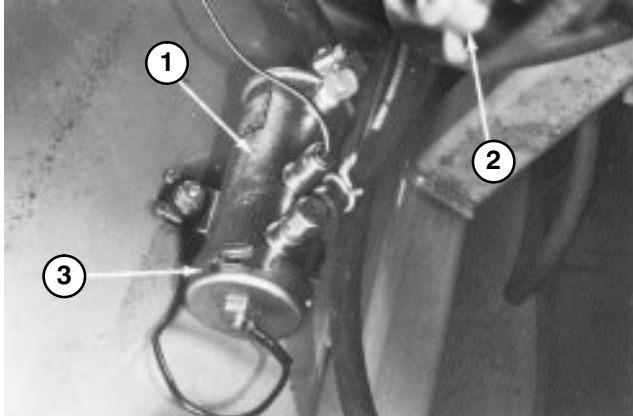
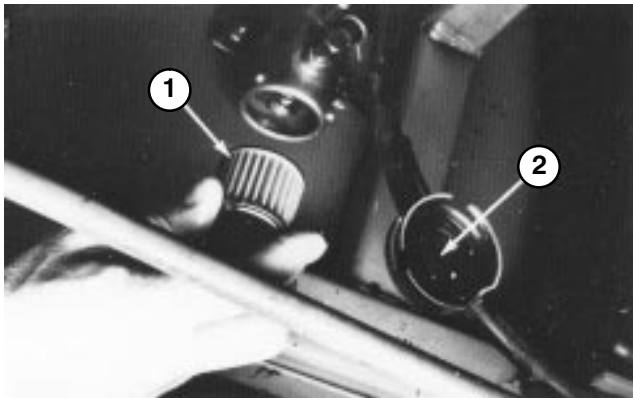

Figure 48
Figure 49
1. Fuel pump is located on inner frame bulkhead to left of drive coupling assembly (Fig. 48).
3. Place a drain pan under fuel pump and remove cover from fuel pump with 17 mm wrench (Fig. 48). Take care not to damage wire while removing cover.
4. Pull filter out of pump body (Fig. 49).
6. Clean magnet of any residue (Fig. 49), insert filter into body, and install cover (Fig. 48).